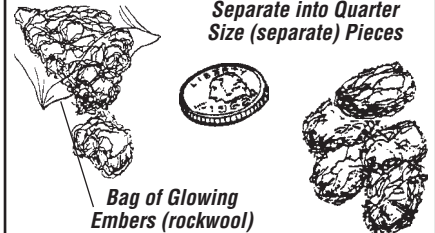

Figure 54
5. **Placement of Glowing Embers** - Separate the Embers (rockwool) into pieces about the size of a quarter (see *Figure 54*). Keep the pieces fluffed up, not matted. Distribute these pieces over the surface of the burner, as shown in *Figures 55 & 56*. Do not use more than is necessary. Ensure that the main burner slots remain uncovered by the ember material.